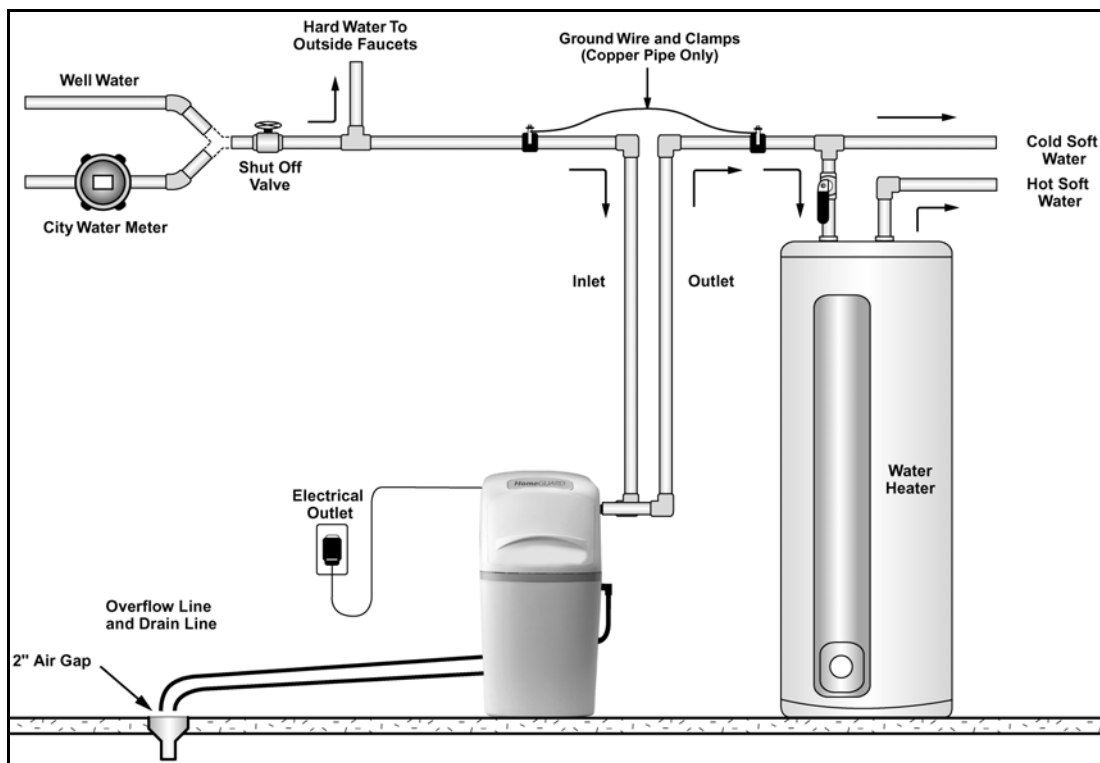

Figure 2: Appliance Placement
- F. Place the appliance in the desired location using Figure 2 as a guide. The diagram in Figure 2 applies to basement, slab, crawl space, and outside installations. For under counter (kitchen sink), consult the factory for recommended instructions.